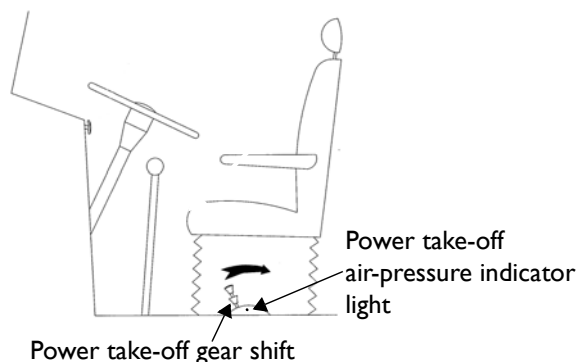

Figure 4 Carrier's cabin
- Pull the gear shift of the power take-off (see *Figure 4*, below).